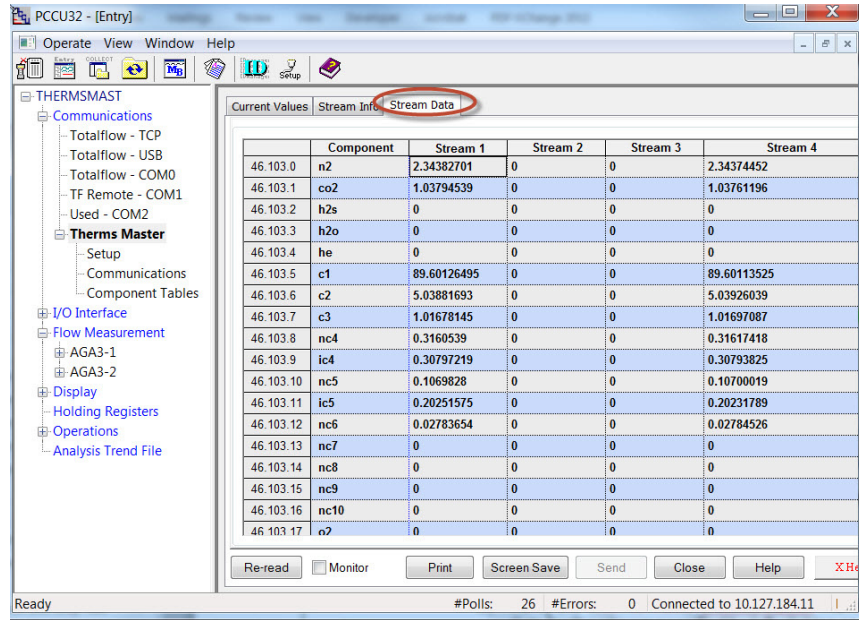

Figure 53. Verifying data for all streams enabled is received
- 12) Go to the *Stream Data* tab and verify that data is being received for enabled streams. See Figure 53 for a view that displays all streams at once for verification.